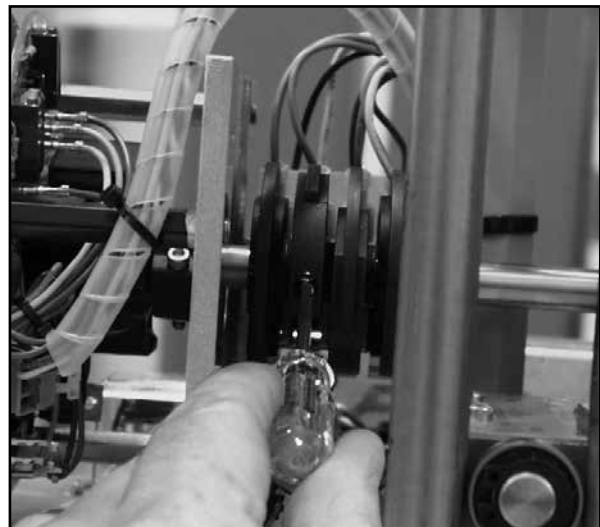

Figure 5
2. Use the electric Handswitch to drive the control shaft so that the EXT switch cam is accessible. Using a 7/64" hex wrench, loosen the screw so that the cam is just snug to the shaft. See Figure 5, page 21.